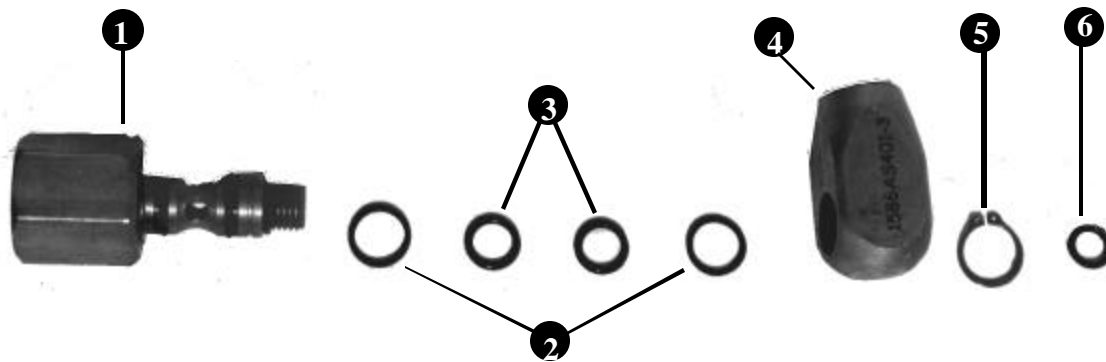

Figure 6-5. PRS-21 Top-Off Adapter
6.7 Top-off Adapter (PRS-21). The top-off adapter is used as the connector between the HABD and the PRS. It is a durable item that requires little maintenance. Routine maintenance is described below. Other maintenance is required only when the adapter is hard to turn or has developed a leak. See Figure 6-5 for item breakdown and parts that make-up the top-off adapter.